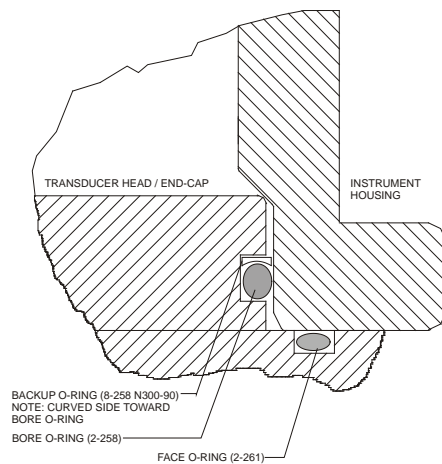
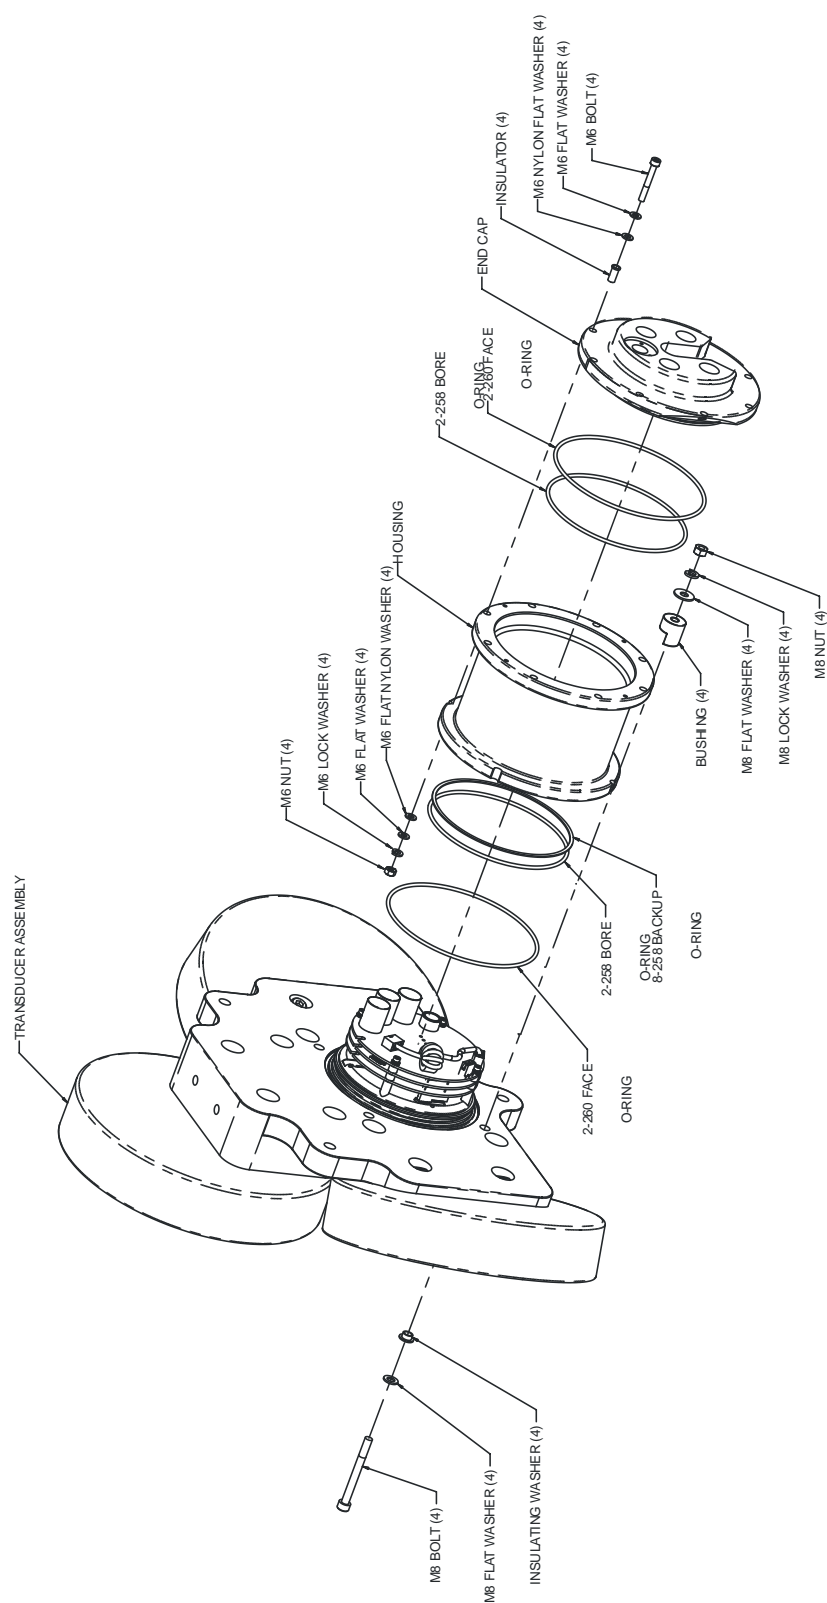

Figure 11. 300 kHz Narrow Beam Width Backup O-Ring Detail
Figure 12. 300 kHz NB Assembly – Two Piece Housing
- e. The backup O-ring (see Figure 11 and Figure 12) is installed in addition to the 2-258 bore O-ring on the transducer head assembly for 300 kHz Narrow Beam Width systems only. Install the backup O-ring with the cupped side facing the 2-258 bore seal O-ring.
- e. Examine the housing assembly nuts, bolts, and washers (6-mm) for corrosion; replace if necessary. Figure 12 shows the assembly order of the mounting hardware. All the hardware items are needed to seal the H-ADCP properly.